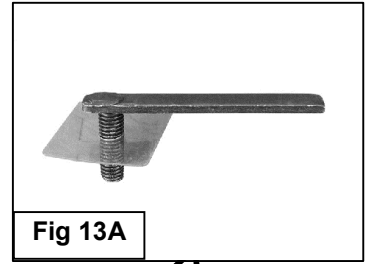
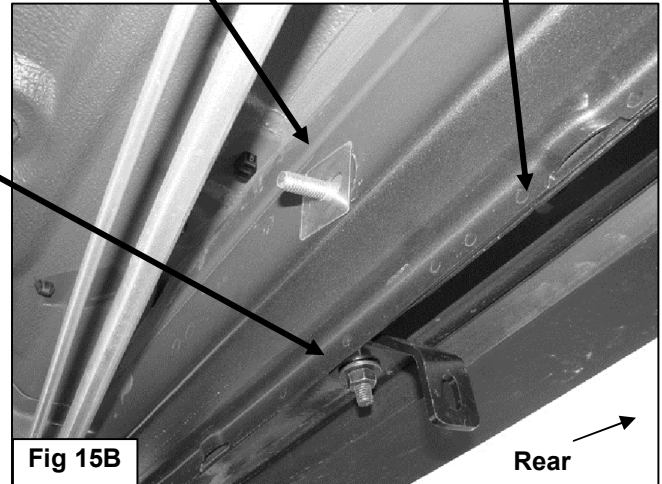

Fig 13A
Fig 15B
12. Move along the side of the vehicle to approximately the center/back of the front door. Locate the single hole in the back of the outer frame channel, **(Figure 15B)**. Remove rubber plug if equipped. Next locate and remove the (2) rubber plugs from the bottom of the outer frame channel. Repeat **Steps 2—5** to install the (2) Bolt Plates and (1) Long Center Lock Plate to the bottom of the frame channel, **(Figures 13B & 14)**.
13. Select (1) 10mm Bolt Plate and (1) 10mm Plastic Retainer, **(Figure 13A)**. Partially thread the Retainer onto the Bolt Plate. Insert the Bolt Plate into the hole in the back of the frame channel, **(Figure 15B)**.
14. Select (1) Center Support Bracket, **(Figure 15A)**. Attach the long end of the Support Bracket to the forward Bolt Plate in the frame channel with (1) 10mm Flat Washer, (1) 10mm Lock Washer and (1) 10mm Hex Nut, **(Figures 15B & 17)**. Select the passenger side Center Bracket, **(Figure 16)**. Attach the
(see Fig 13A)